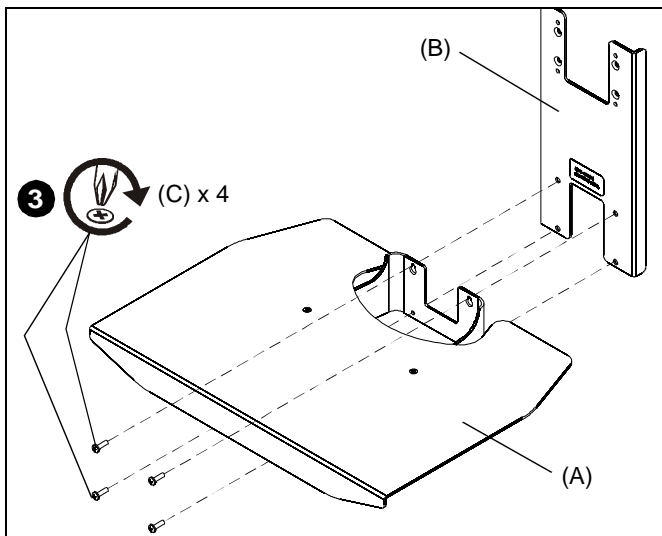

Figure 2
3. Attach FCD100 shelf (A) to FCD100 hanger bracket (B) using four 10-24 x 5/8" Phillips pan head screws (C). (See Figure 2)